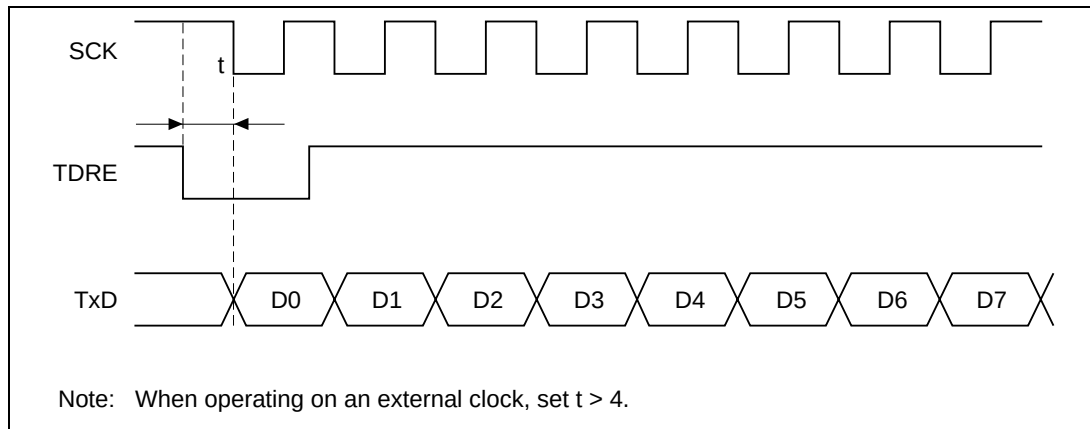

**Figure 15.25 Example of Synchronous Transmission by DMAC**
**When Using the DMAC:** When an external clock source is used as the serial clock, the transmit clock should not be input until at least 5 peripheral operating clock cycles after SCTDR1 is updated by the DMAC. Incorrect operation may result if the transmit clock is input within 4 cycles after SCTDR1 is updated. (See figure 15.25)